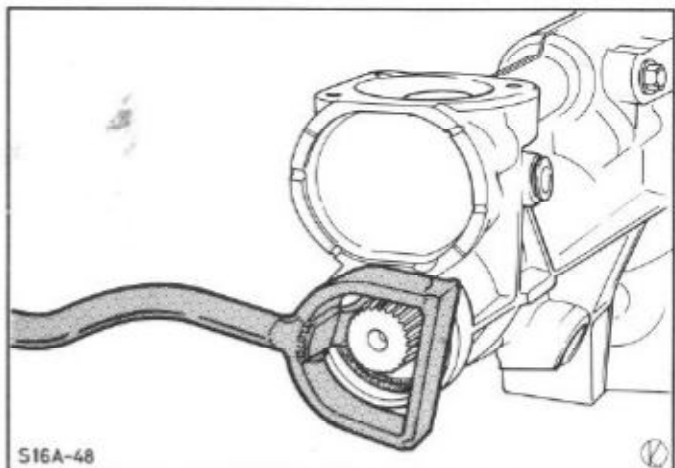

Fig.115. Remove oil seal using Special Tool.
5. Remove extension housing oil seal using Special Tool 21-051, Fig.115.